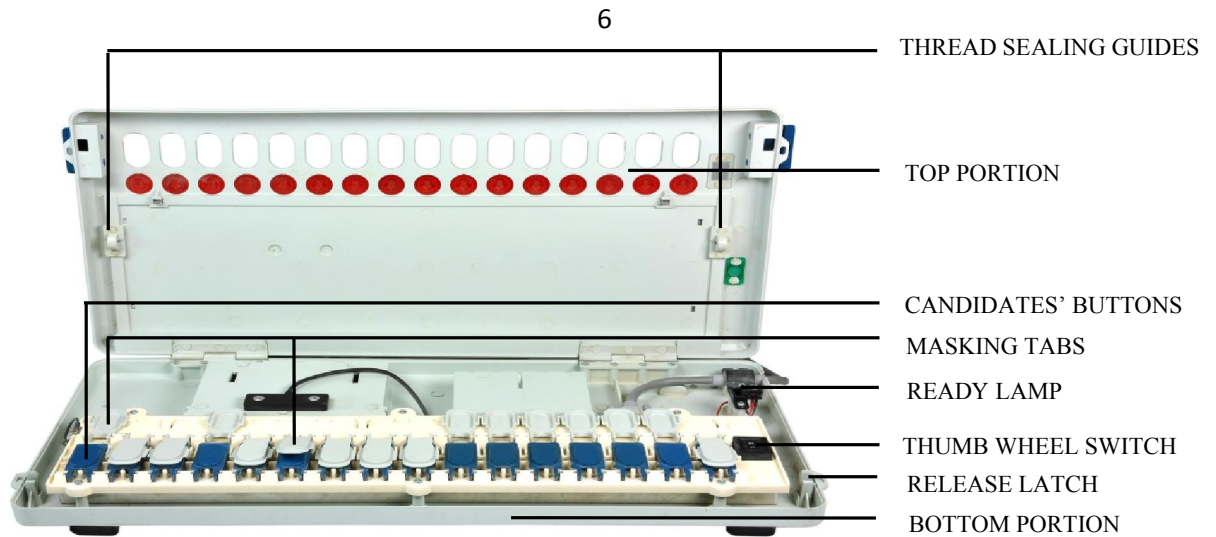

Fig.5 Inside view of Ballot Unit
16. The top cover of the Ballot Unit is opened by pressing simultaneously, towards the right, the latches at the top and bottom of the right edge of the unit. The inside of the unit is as in Fig. 5. Sixteen candidates' buttons are visible, each having an associated masking tab. The buttons which are required to be used should not be covered or masked. The buttons not required to be used should be covered or masked with their associated masking tabs.